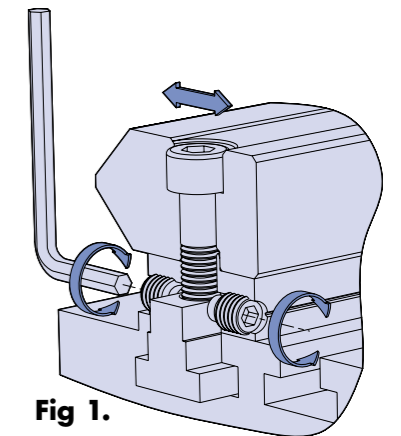

Fig 1.
- HLN back plates will be supplied with tapped holes and M8 dog point socket set screws to ISO 4028 for customers requiring the jacking screw alignment facility. Hole configuration 'B' denotes jacking screw positions corresponding with fixing hole positions, necessary when used in conjunction with the construction beams (see figure 1). Hole configuration 'A' denotes jacking screw positions mid way between fixing hole positions and is for general use where customers provide their own centre key section or use Hepco alignment dowel pins USDPA as shown in figure 2.